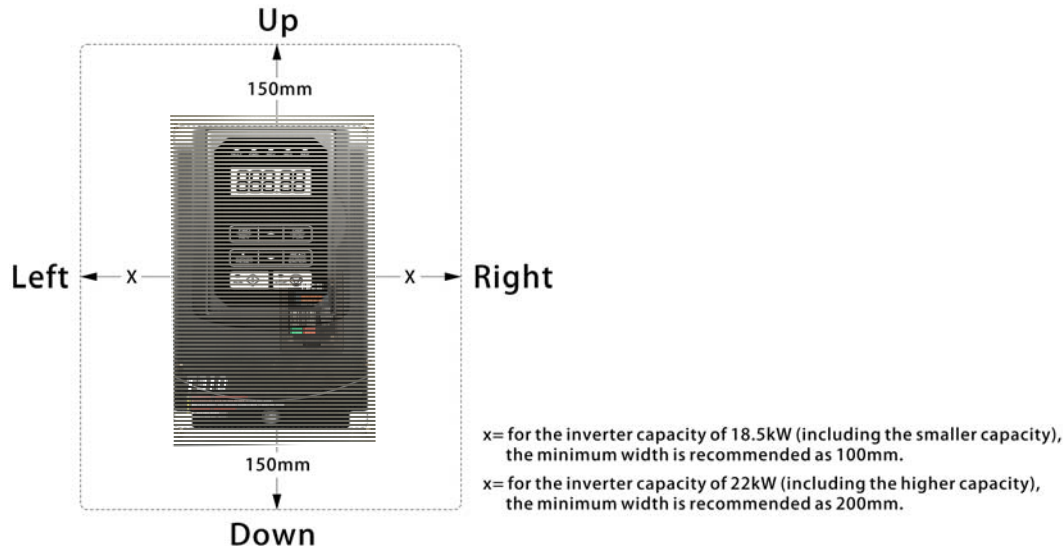

Fig 3.1 T310 Installation Space
(1) Please install the T310 inverter in vertical direction, leaving enough space to ensure the cooling effect, shown in Fig3.1.